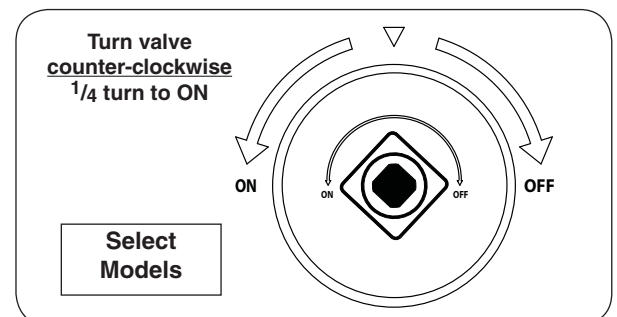

Fig. 41-2 ON/OFF key valve detail
3. If equipped, turn the ON/OFF key valve counter-clockwise a  $\frac{1}{4}$  turn to the **ON** position (Fig. 41-2).